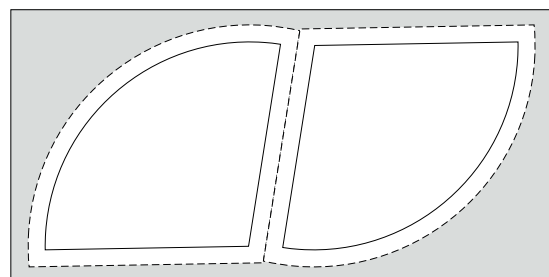

fig 2
4. Cut the fan base fabric (dark blue linen texture) into four 4" WOF strips and cut those into forty-one fan bases. Cut twelve from each strip orientating them into pairs as shown in fig 2.